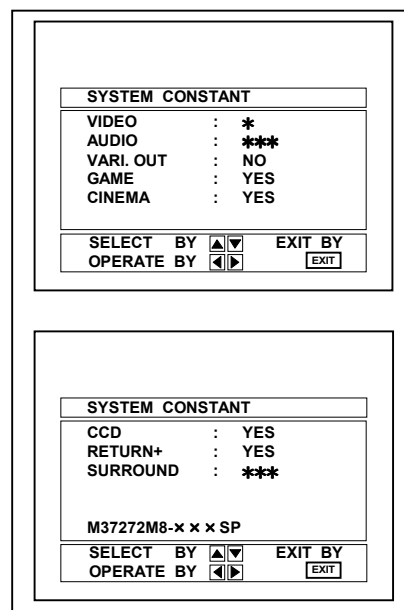

Fig.2
- 3) While the SERVICE MENU is displayed, again simultaneously press the DISPLAY and VIDEO STATUS keys to display the Fig.2 SYSTEM CONSTANT screen.